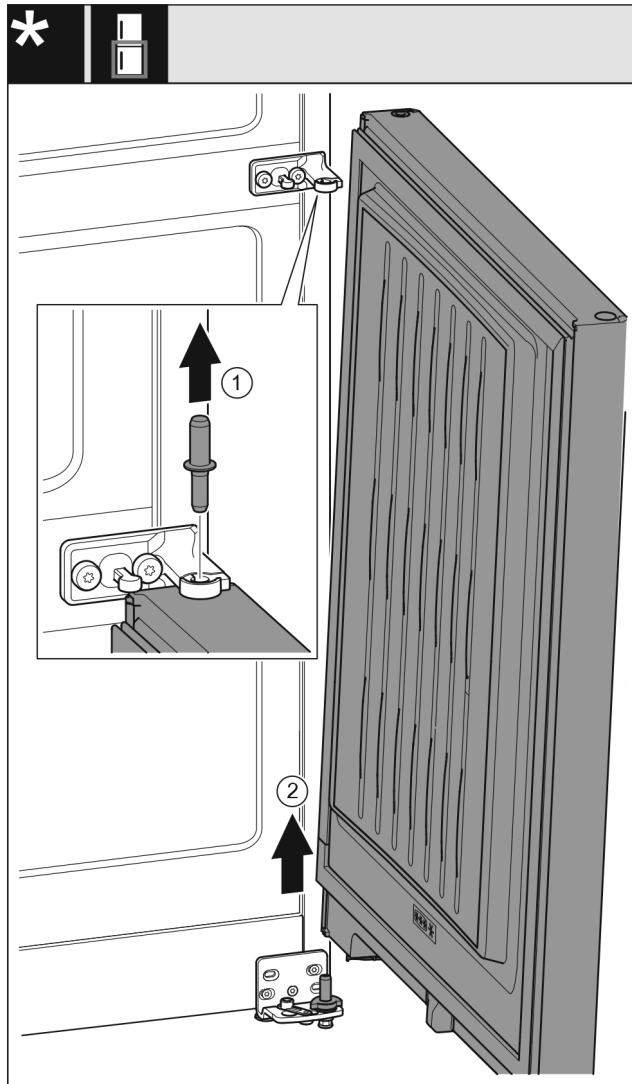

Fig. 9
- ▶ Pull out the bolts upward. Fig. 9 (1)
- ▶ Swing the door out, pull it upward and set it aside. Fig. 9 (2)